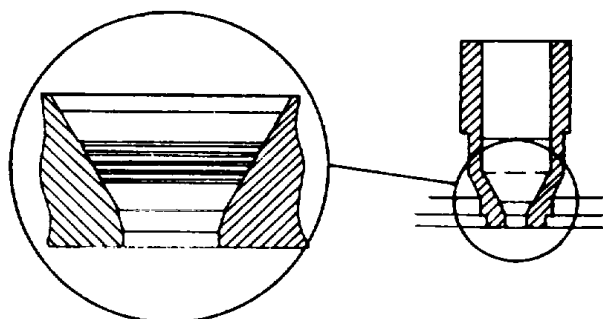

Figure 3-96. Sleeve seat bead and chamfer location.
(1) Machine bead in sleeve seat area of head, if not previously beaded, with ST-839, figure 3-96. This will provide an improved seal.
(2) Install the bead cutter in ST-379-1 Seat Cutter Holder and position with ST-843 Seat Cutter Pilot in a drill press. Set drill press speed at not more than 75 rpm. Cutter may be turned by hand using a tap wrench.